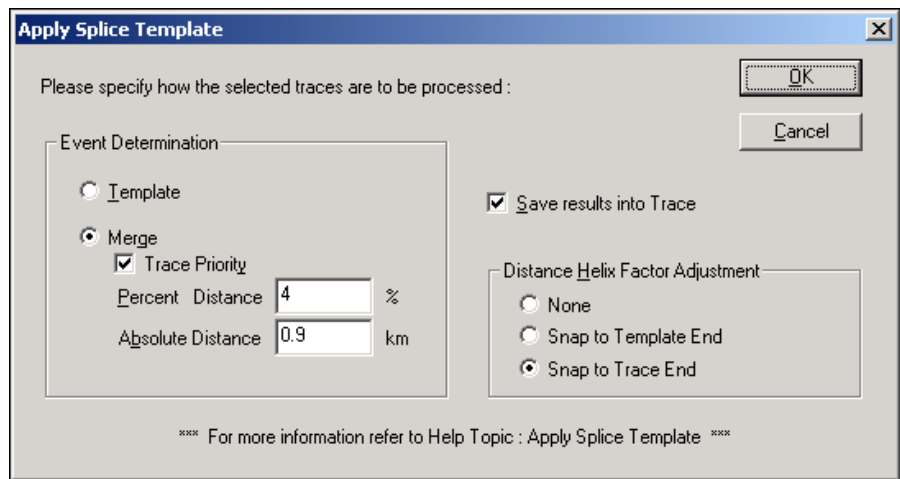

Figure 9-1: Apply Splice Template Dialog Box
4. Select **Trace>Apply Splice Template**. The Apply Splice Template dialog box (Figure 9-1) is displayed.
The Apply Splice Template dialog box (Figure 9-1) allows selection of various settings and parameters that determine how traces are to be processed.